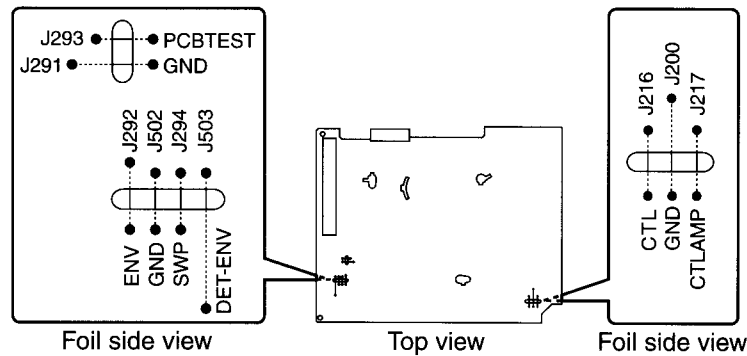
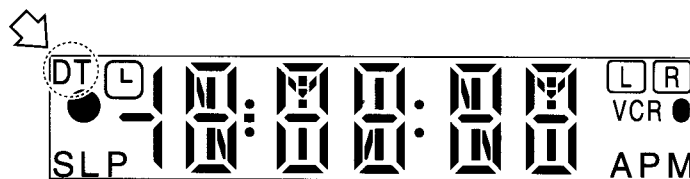

Figure 1
Figure 2
- (1) Playback the test tape and allow the automatic ATR to finish. It will take about 4 or 5 seconds. The ATR is finished when "DT" (Digital Tracking) on the FIP stops blinking. (Figure 2 an arrow).
- (2) Short the connection more than 2 seconds between PCB TEST (J293) and GND (J291) on the MAIN circuit board (Figure 1 above). Then the segments start count down (Figure 2). During count down, μ -com performs the adjustment of the switching point.
- (3) In about 10 seconds, the FIP indicates the "STILL" $\rightarrow$ "PLAY". It means that the normal Adjustment process of the switching point is completed. But if the FIP indicates the "PLAY" $\rightarrow$ "STOP", it means abnormal adjustment process. So try again (2) process.
- (4) Clear the TEST POINT short.
4. Short the PCB TEST (J293) of the test jumper on the MAIN board with the GND J291 (Figure 1) more than 2 seconds.